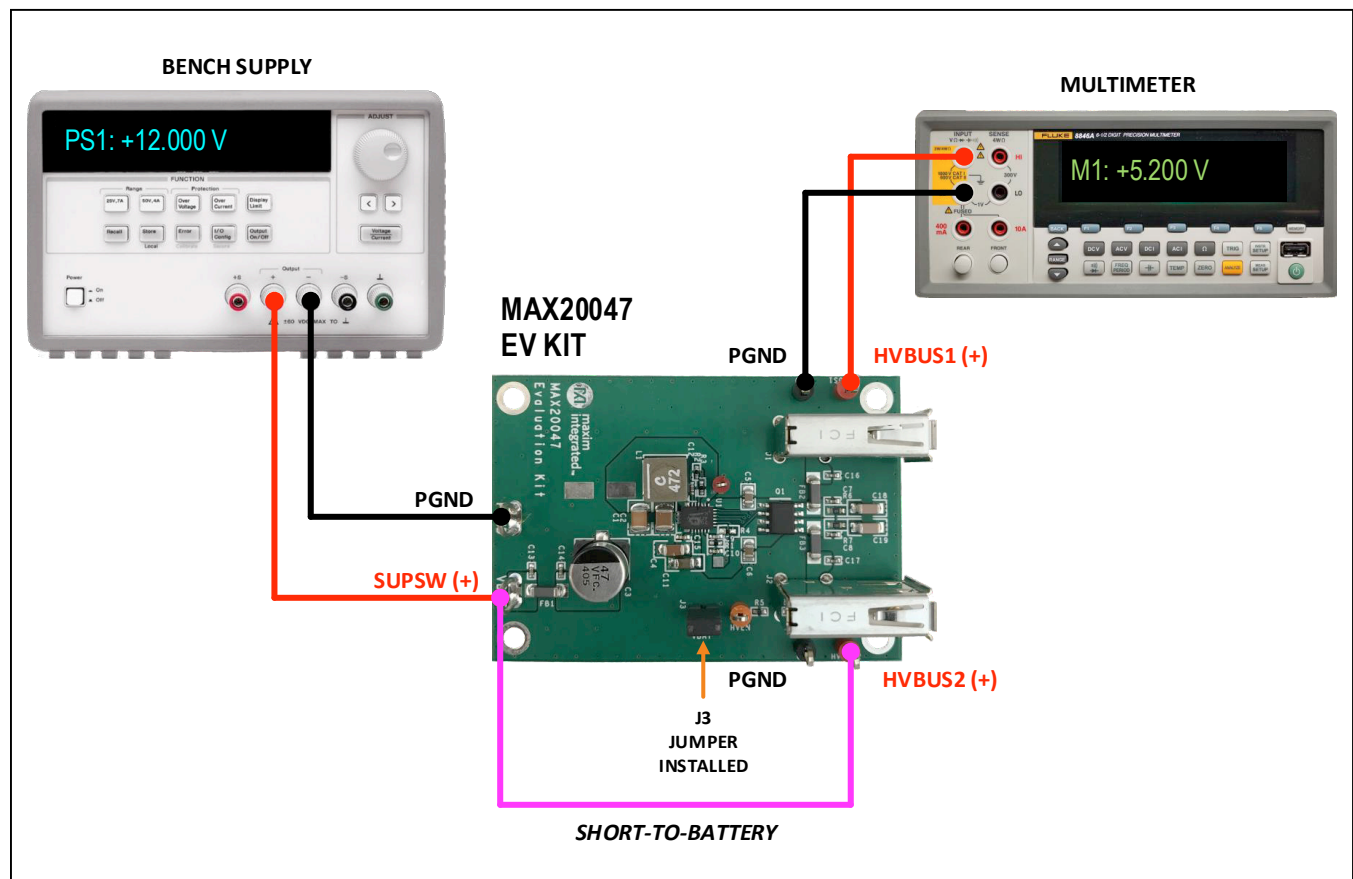

Figure 7. Test Setup for Verifying VBUS Short-to-Battery Protection
The IC independently protects the HVBUS1 and HVBUS2 channels against shorts to battery. Figure 7 shows the test setup to evaluate VBUS short-to-battery fault protection.
- 1) Connect the equipment (see Figure 7), set PS1 to 12.000V, and enable the power-supply output.